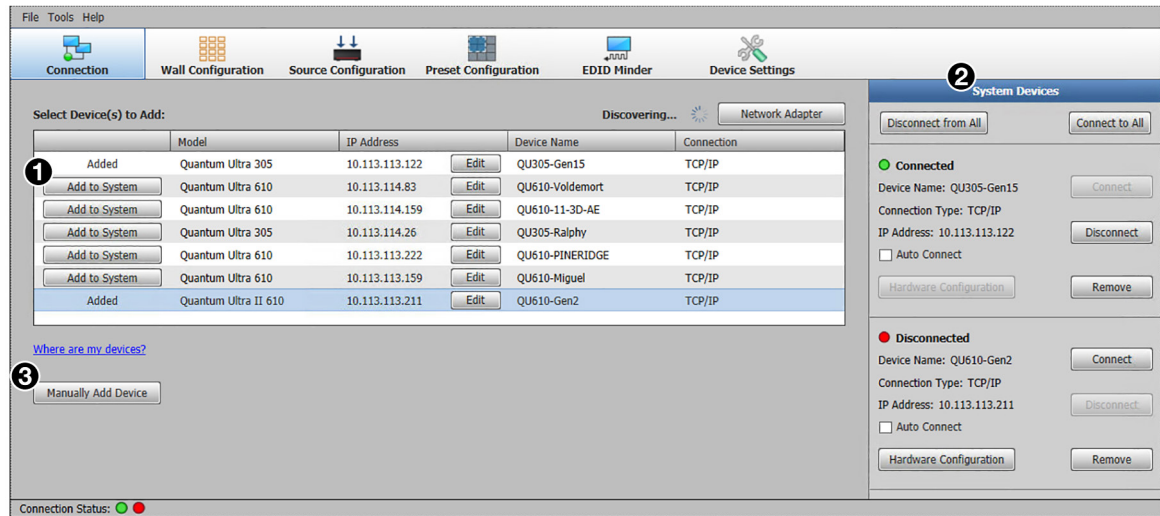
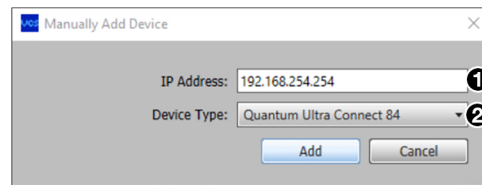

Figure 73. Adding Devices to the System
Figure 74. Manually Add Device Window
- c. Click **OK** (②) to confirm your selection. The **Network Adapter** screen closes.
6. On the **Connection** screen, locate your device on the list and click the **Add to System** button at the left of the device name (see figure 73, ①). Connection information is displayed in the **System Devices** panel (②).
- a. Click **Manually Add Device** (see figure 73, ③). The **Manually Add Device** window opens (see figure 74).
- b. In the **IP Address** field, enter the address of the Quantum Ultra Series device to be connected (see figure 74, ①).
- c. If necessary, select the Quantum Ultra Series device type from the **Device Type** drop-down menu (②).
- d. Click **Add**. The connection information for the device is displayed in the **System Devices** panel (see figure 73, ②).
1. On the **NewProject** connection screen, **Select Devices to Add** panel, click the **Manually Add Device** button (see figure 73, ③ on page 86).